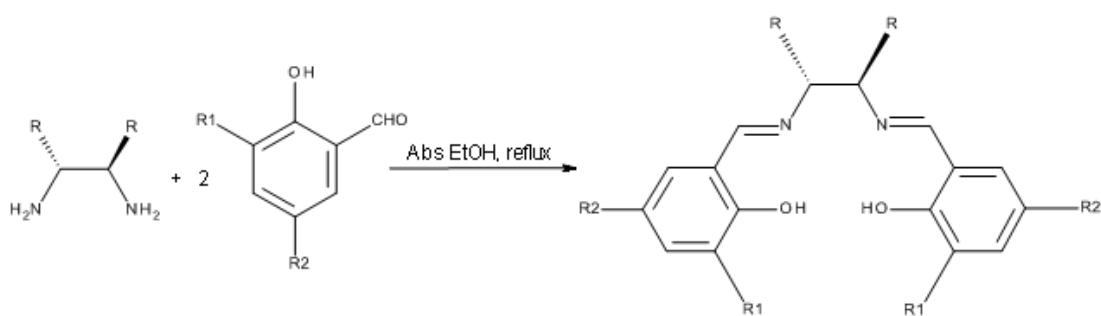

Figure 1: Step 1 - Reaction of diamine and salicylaldehyde derivative to form a salen ligand³
- Synthesis of salen ligand (see Figure 1)